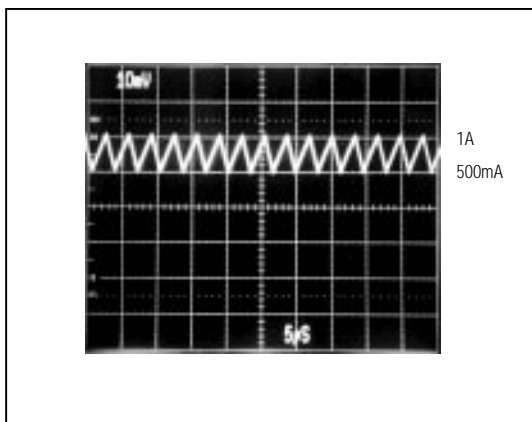

Figure 4a. CCM, Heavy Load Current Waveform (500mA/div)
The MAX761/MAX762 also limit the peak inductor current, allowing the devices to run in continuous-conduction mode (CCM) and maintain high efficiency with heavy loads (Figure 4a). This current-limiting feature is a key component of the control circuitry. Once turned on, the switch stays on until either (1) the maximum on-time one-shot turns it off ($8\mu s$ later), or (2) the current limit is reached.
The coil's inductance need not satisfy this criterion exactly, as the circuit can tolerate a wide range of values. Larger inductance values tend to produce physically larger coils and increase the start-up time, but are otherwise acceptable. Smaller inductance values allow the coil current to ramp up to higher levels before the switch can turn off, producing higher ripple at light loads. In general, an $18\mu\text{H}$ inductor is sufficient for most applications ($V_{\text{IN}} \leq 5\text{V}$). An $18\mu\text{H}$ inductor is appropriate for input voltages up to 3.6V , as calculated above. However, the same $18\mu\text{H}$ coil can be used with input voltages up to 5V with only small increases in peak current, as shown in Figures 4a and 4b.